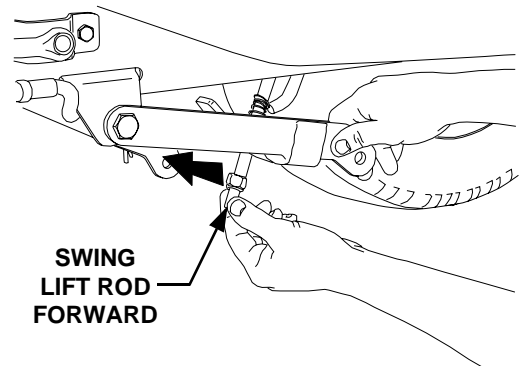

Figure 4C
- c. Swing the lift rod forward until fully to the front of the lift link slot (See Figures 4C and 4D).
- Swing the lift rod forward until fully to the front of the lift link slot (See Figures 4C and 4D).